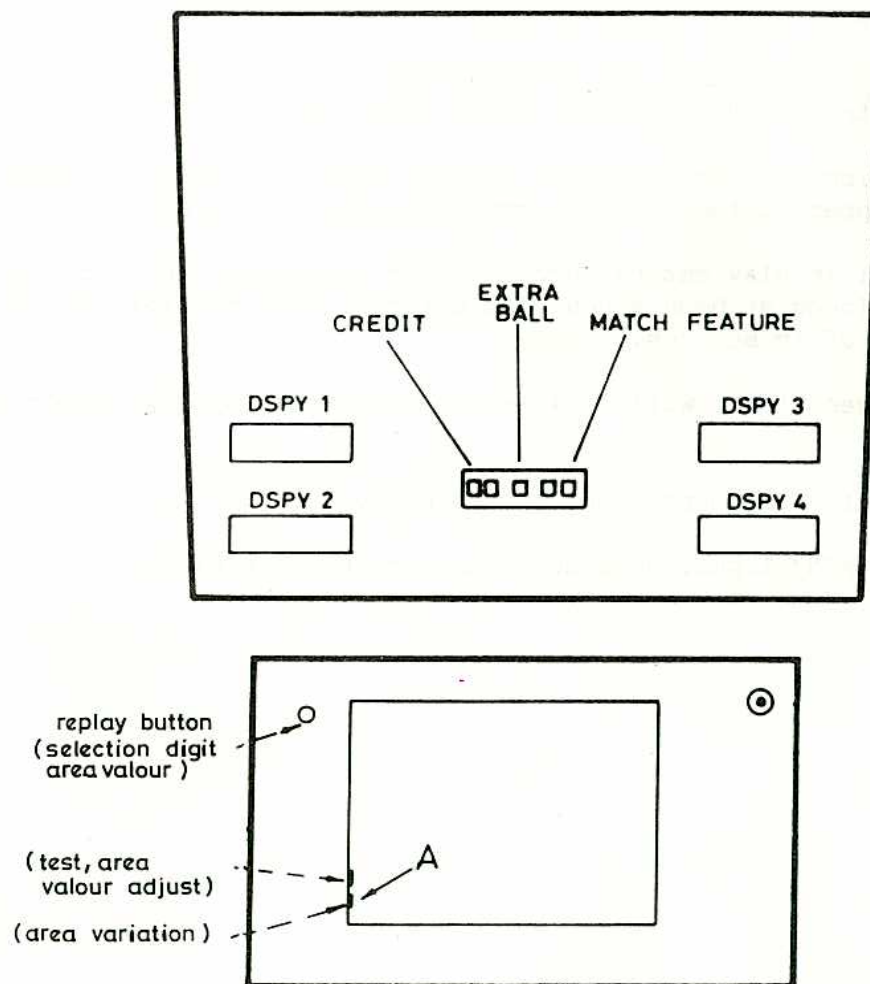

FIG.4
- Connect the machine. At the 1st. player display (DSPY 1, Fig. 4) the word "TEST" will appear.
- Press test button. Fig. 4. Counters will advance from 000.000 to 999.999, the cycle will repeat meanwhile the mentioned button it is pressed.
- On the credit counter (Fig. 4), will appear 00 0, it means that there is not any closed contact.
- Setting the 8 area and on pressing the "A" button succesively (Fig. 4), will appear at the 1st. player display and in the second one, the adjustment valour of the different areas.